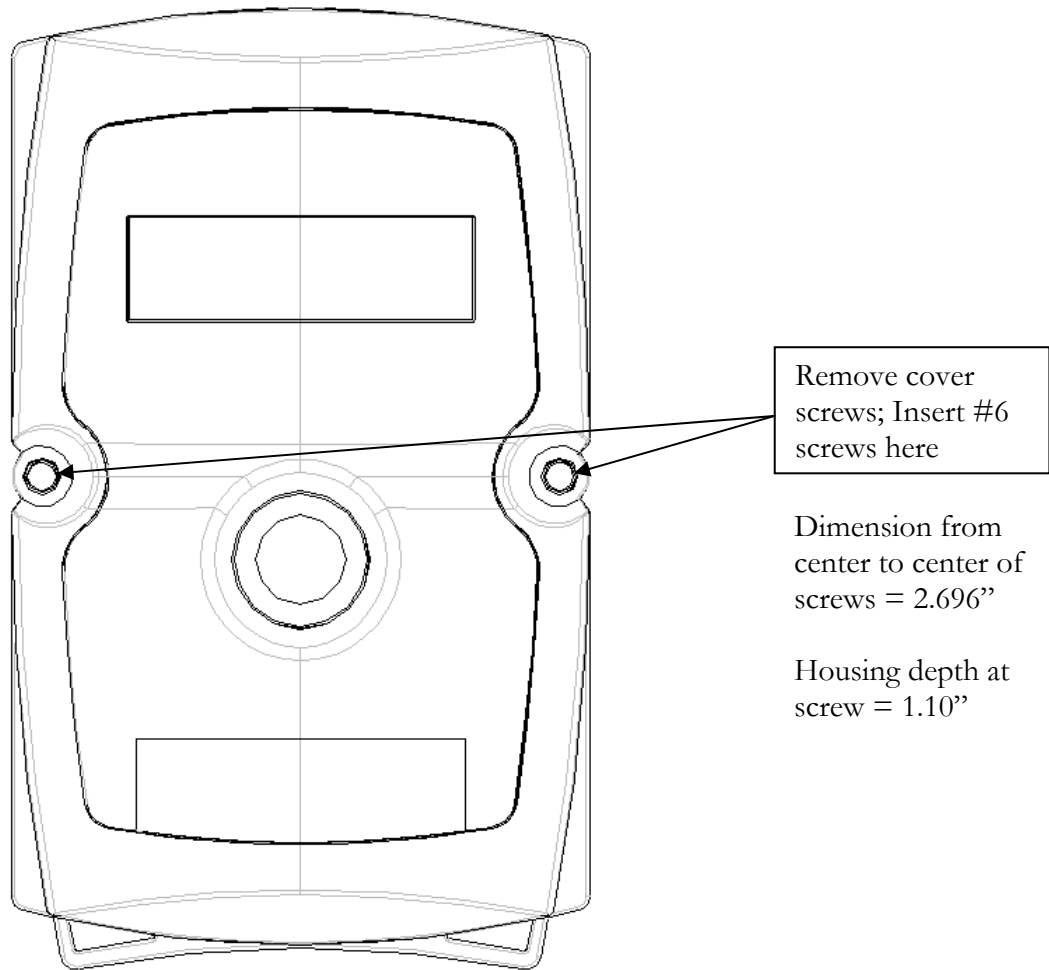

Figure 4: Screw mounting template (drawing is actual size).
The WhereCall III+ may be directly mounted to a surface such as a wall, post, or desk. For correct screw placement, use the Screw Mounting Template provided in this User's Guide (see Figure 4).
3. Place a pencil, pen or metal scribe on the 'Insert screw here' points as shown in Fig. 4, puncture the template and mark the mounting surface.